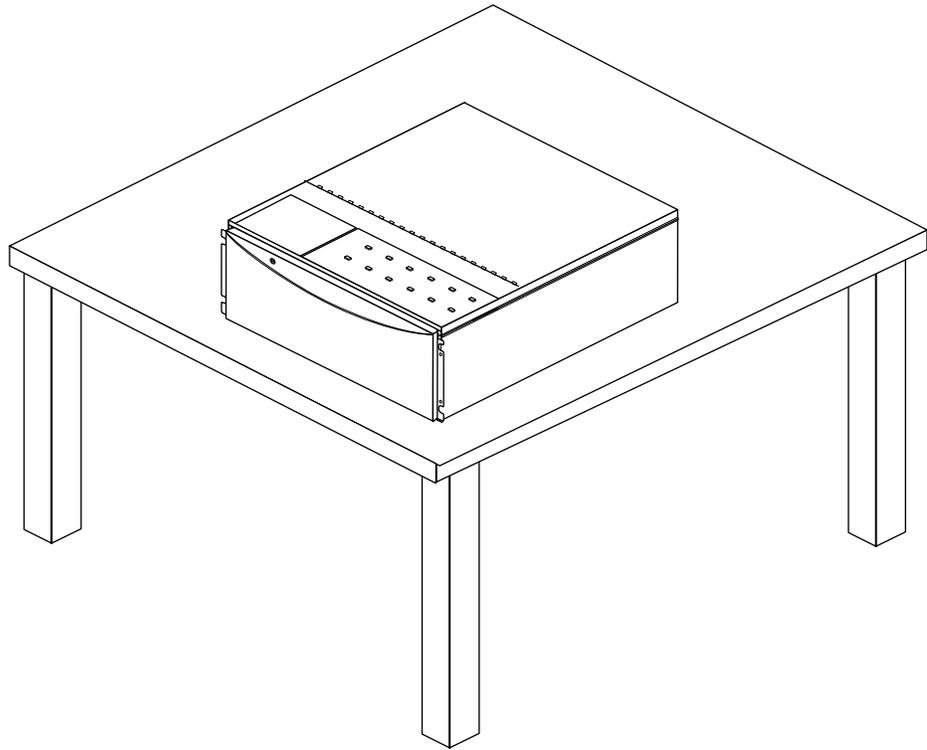

Figure 1-4 Chassis on a Work Surface
5. Place the chassis on a sturdy work surface, as shown in Figure 1-4.